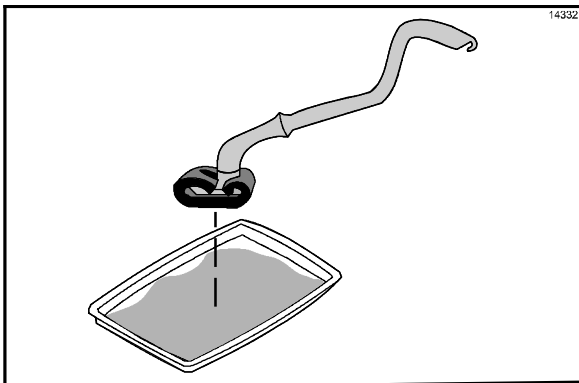

Figure 47
14. Dip the Kay Grill Cleaning Pad Holder into the grill cleaner. (See Figure 47.)